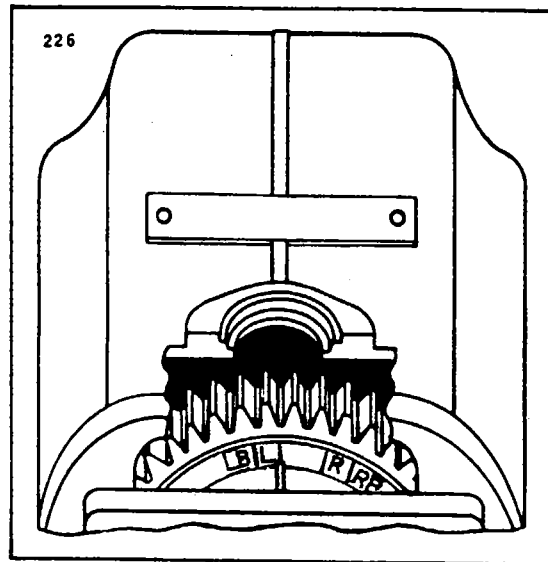

Figure 8-13. Aligning Timing Marks Single Contact Assembly Magneto
2. With distributor gear assembled to block, turn gear until raised rib on block lines up between the L and LB marks. Assemble block and gear into housing, meshing the distributor gears together. For the dual contact assembly magneto, distributor block rib must align between painted marks. However, the rib should favor the LB mark, if possible. (Refer to Figure 8-13.) On the single contact magneto the rib should favor the L mark.